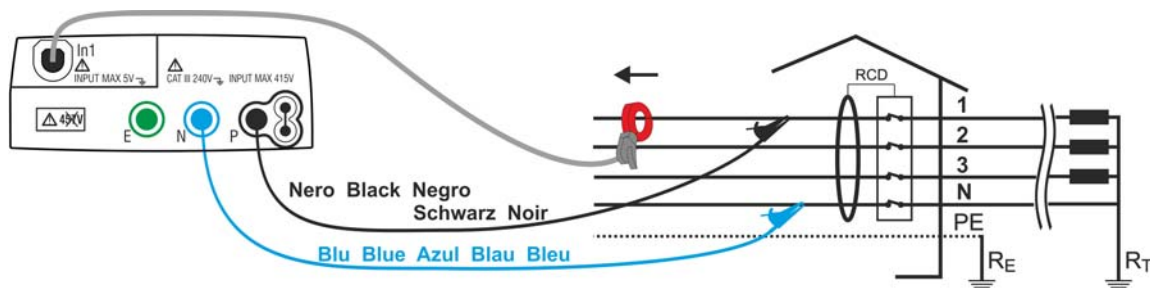

Fig. 32: Instrument connection for single-phase, double-phase or three-phase measurements
4. Staple the phase to be tested. Insert both the **black** and **blue** connectors of the single cables into the relative **P** and **N** instrument input leads. Insert the relative alligator clips into the free end of the cables and connect the test leads to the test ends of the conductor to be tested as in Fig. 32. The arrow on the clamp must point in the direction of the power flow, i.e. from generator to load